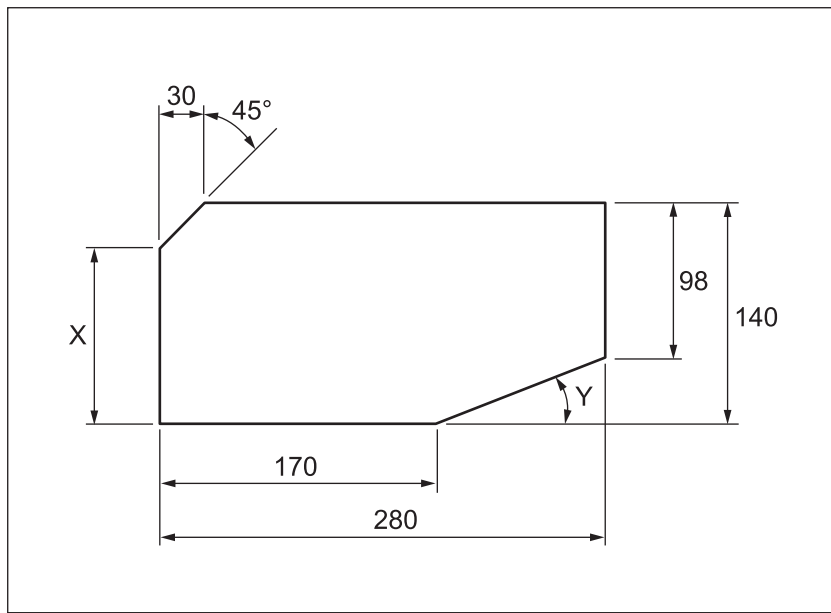

Figure 7
Figure 7 shows a steel plate.
- a. Calculate dimension 'X' of the steel plate shown in Figure 7.
- b. Calculate angle 'Y' of the steel plate shown in Figure 7. Give your answer correct to one decimal place. Show your working.